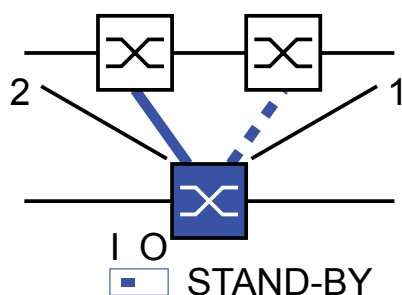

Figure 24: One-Switch-coupling
- ☐ Select one-Switch coupling (see fig. 24).